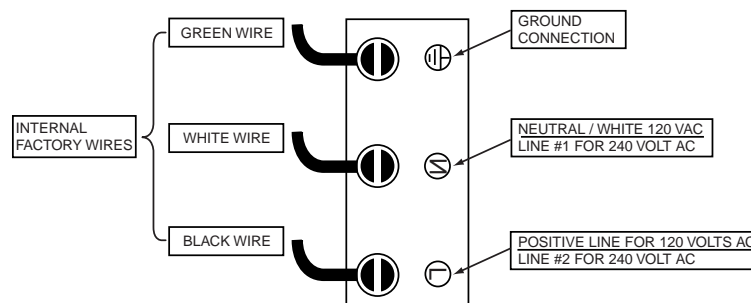

Figure 5.
When connecting the home wiring to the “Line Terminal Block” inside the junction box, follow the polarity as shown below. Connecting to 120 VAC, make sure that you connect the positive wire to the positive terminal (L), the neutral wire is connected to the neutral terminal (N) and the ground is connected to the ground terminal (GND); see below, Figure 5.